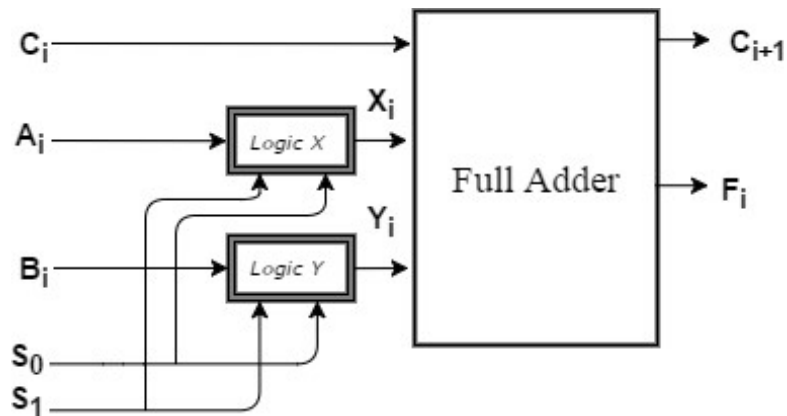

Figure 2: Block Diagram of the 1-bit ALU component.
2.1 (7pts) We shall use “divide and conquer” method to hierarchically design the 4-bit ALU by first designing a 1-bit ALU module or so called “bit-slice”. Though, there are different ways for the design of this approach, our ALU will have the characteristic architecture as shown in Fig. 2. Draw two truth tables, one admitting inputs S_1, S_0, A_i and giving an output X_i and the other admitting inputs S_1, S_0, B_i and giving an output Y_i in light of the arithmetic operations as presented in Table 1. A sample table is drawn for you to fill out in the Appendix section. Explain your reasoning by referring to Table 1.